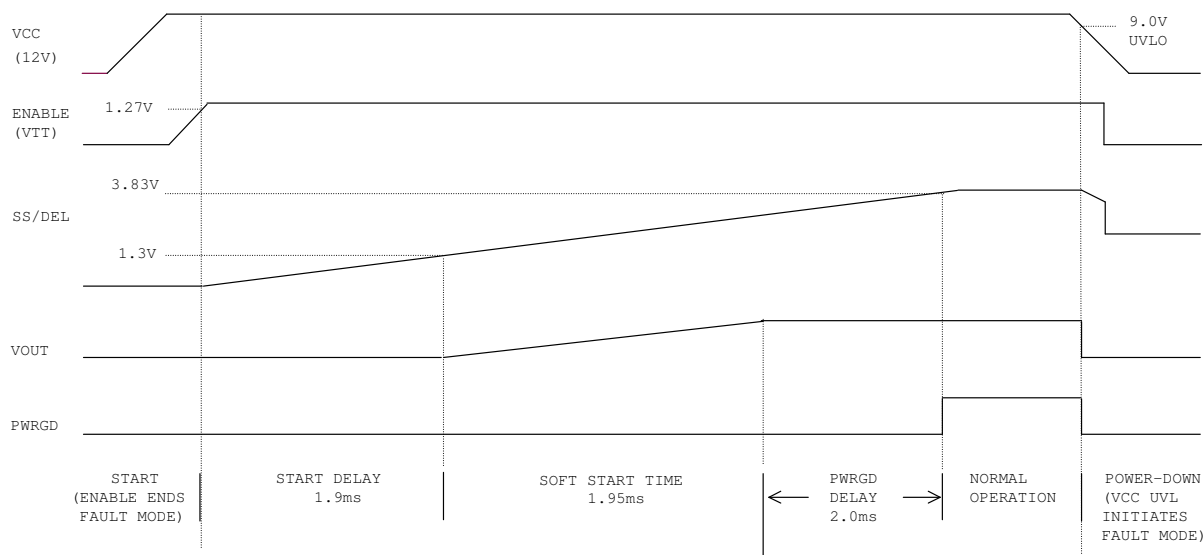

Figure 10 – Start-up Waveforms
The IR3082A has a programmable soft-start function to limit the surge current during the converter start-up. A capacitor connected between the SS/DEL and LGND pins controls soft start as well as over-current protection delay and hiccup mode timing. A charge current of 55 μ A and discharge current of 5 μ A control the up slope and down slope of the voltage at the SS/DEL pin respectively. Soft start-up waveforms are shown in Figure 10.
The SS/DEL pin voltage controls the slew rate of the converter output voltage, as shown in Figure 10. After the ENABLE pin voltage rises above 1.27V, there is a soft-start delay time t_{SSDEL} , after which the error amplifier output is released to allow the soft start. The soft start time t_{ss} represents the time during which the output voltage rises from zero to V_o . t_{ss} can be programmed by an external capacitor, which is determined by Equation (1).